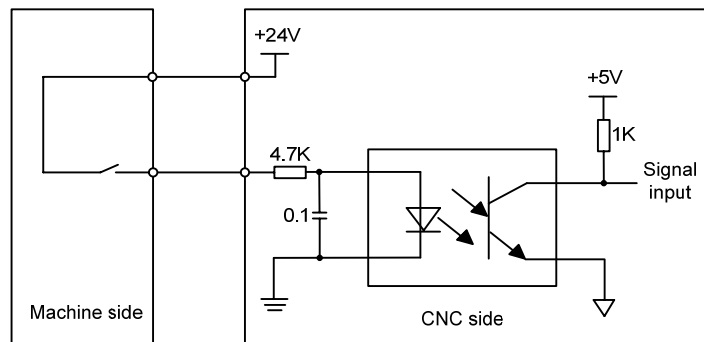

Fig. 3-2-1-1
b) The signal loop of this signal is depicted in Fig. 3-2-1-1